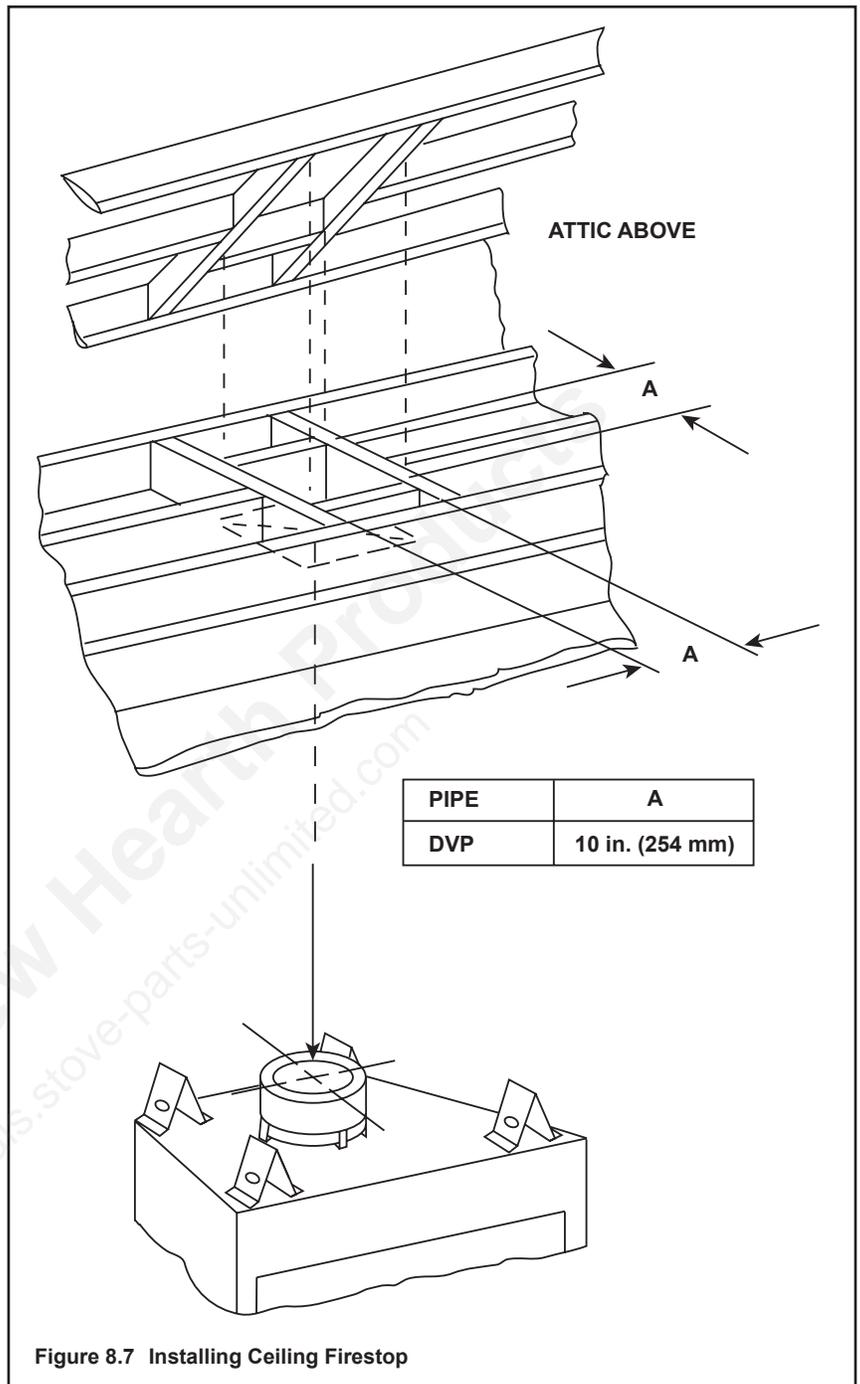

Figure 8.7 Installing Ceiling Firestop
- **DVP pipe only** - Frame an opening 10 in. by 10 in. (254 mm by 254 mm) whenever the vent penetrates a ceiling/floor (see Figure 8.7).